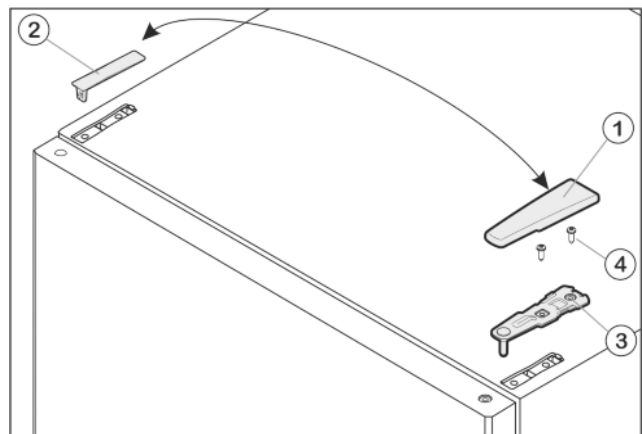

Fig. 8
- ▶ Pull off the cover *Fig. 8 (1)* forwards and upwards.
- ▶ Lift off the cover *Fig. 8 (2)*.
- ▶ Unscrew the upper turn hinge *Fig. 8 (3)* (2x Torx® 25) *Fig. 8 (4)* and lift it off.
- ▶ Insert the upper turn hinge *Fig. 8 (3)* in the door on the new hinge side.
- ▶ Screw the upper turn hinge **firmly** into place (**with 4 Nm**) (2x Torx® 25) *Fig. 8 (4)*. Possibly make preliminary holes with a bradawl or use a cordless screwdriver.
- ▶ Apply the cover *Fig. 8 (1)* and cover *Fig. 8 (2)* to the opposite side from the outside and snap them into place.